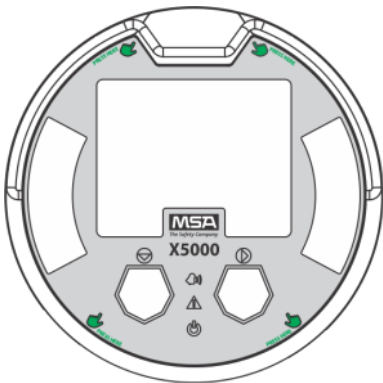

Figure 13 Highlighted areas show where to press when replacing a board stack.
8. Replace the board stack legs into the four depressions in the housing. Push firmly on the board stack where indicated (see Figure 13 ).